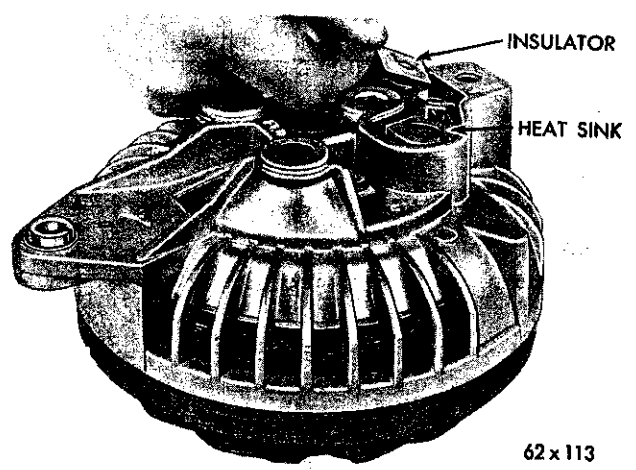

Fig. 18—Removing or Installing the Heat Sink Insulator
(9) Remove the insulator (Fig. 18).
(10) The needle roller bearing in the rectifier end shield is a press fit. If it is necessary to remove the rectifier end frame needle bearing, protect the end shield by supporting the shield with Tool C-3925